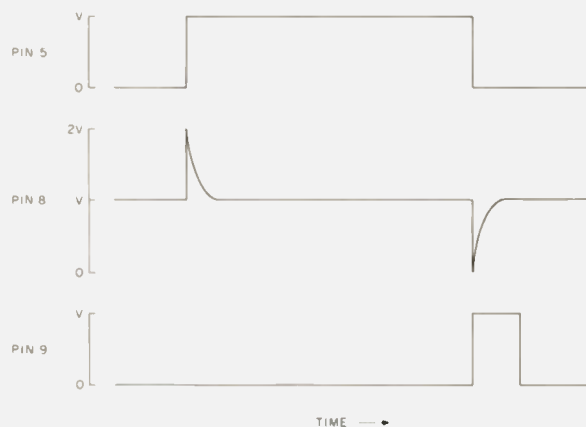

Fig. 2.
The right side of the 556 chip is also in a monostable multivibrator configuration and serves as the driver for the audio oscillator. The output of this multivibrator has a fixed-interval duration of slightly greater than 0.6 seconds. This duration is determined by the 2-uF capacitor and the 220k resistor. The trigger input (pin 8) for this multivibrator is taken from the output of the first multivibrator through a 0.01-uF capacitor. The voltage waveform of pin 8 is shown also in Fig. 2. The
0.01-uF capacitor differentiates the first stage output waveform and puts the generated pulses across the input (trigger) of the second multivibrator. The positive pulse at the start of the interval is ignored by the second stage, while the negative pulse at the end of the interval triggers the second stage. The output of the second multivibrator (pin 9) is normally low, but goes high for a duration of about 0.6 seconds. This voltage waveform is also shown in Fig. 2.